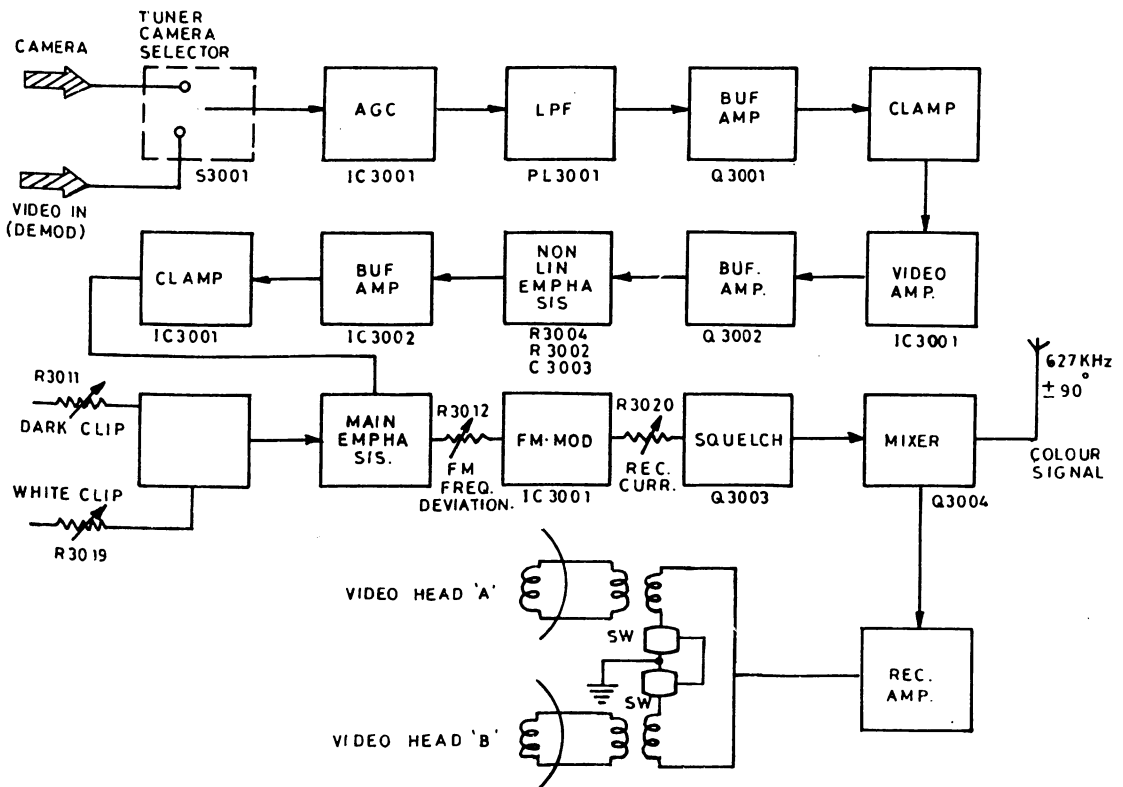

Fig. 3.1. 'Y' signal during record
The fig. 3.1 is a block diagram showing luminance (Y) signal flow in a VCR during Record.